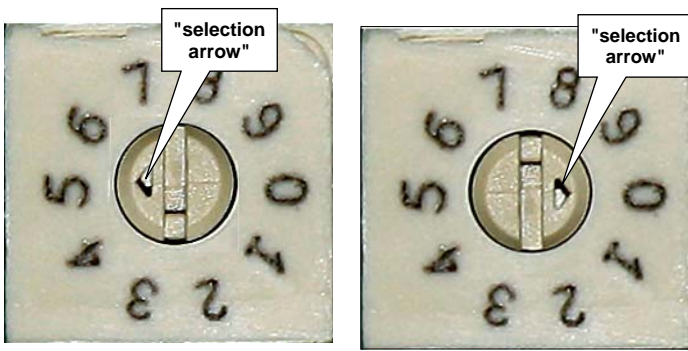

Fig. 5. Example: The above Expander Group dials are set to "50"
**IMPORTANT:** The small "selection arrow" on each dial must be pointing directly to the desired Group value. In Fig. 5 (below), the Group value is set to "50". Use a small flat-head screwdriver to turn the dials and make the selections. *Be sure to orient the Gateway as shown above with the **RESET** button ABOVE the dials to ensure proper Group setting!*